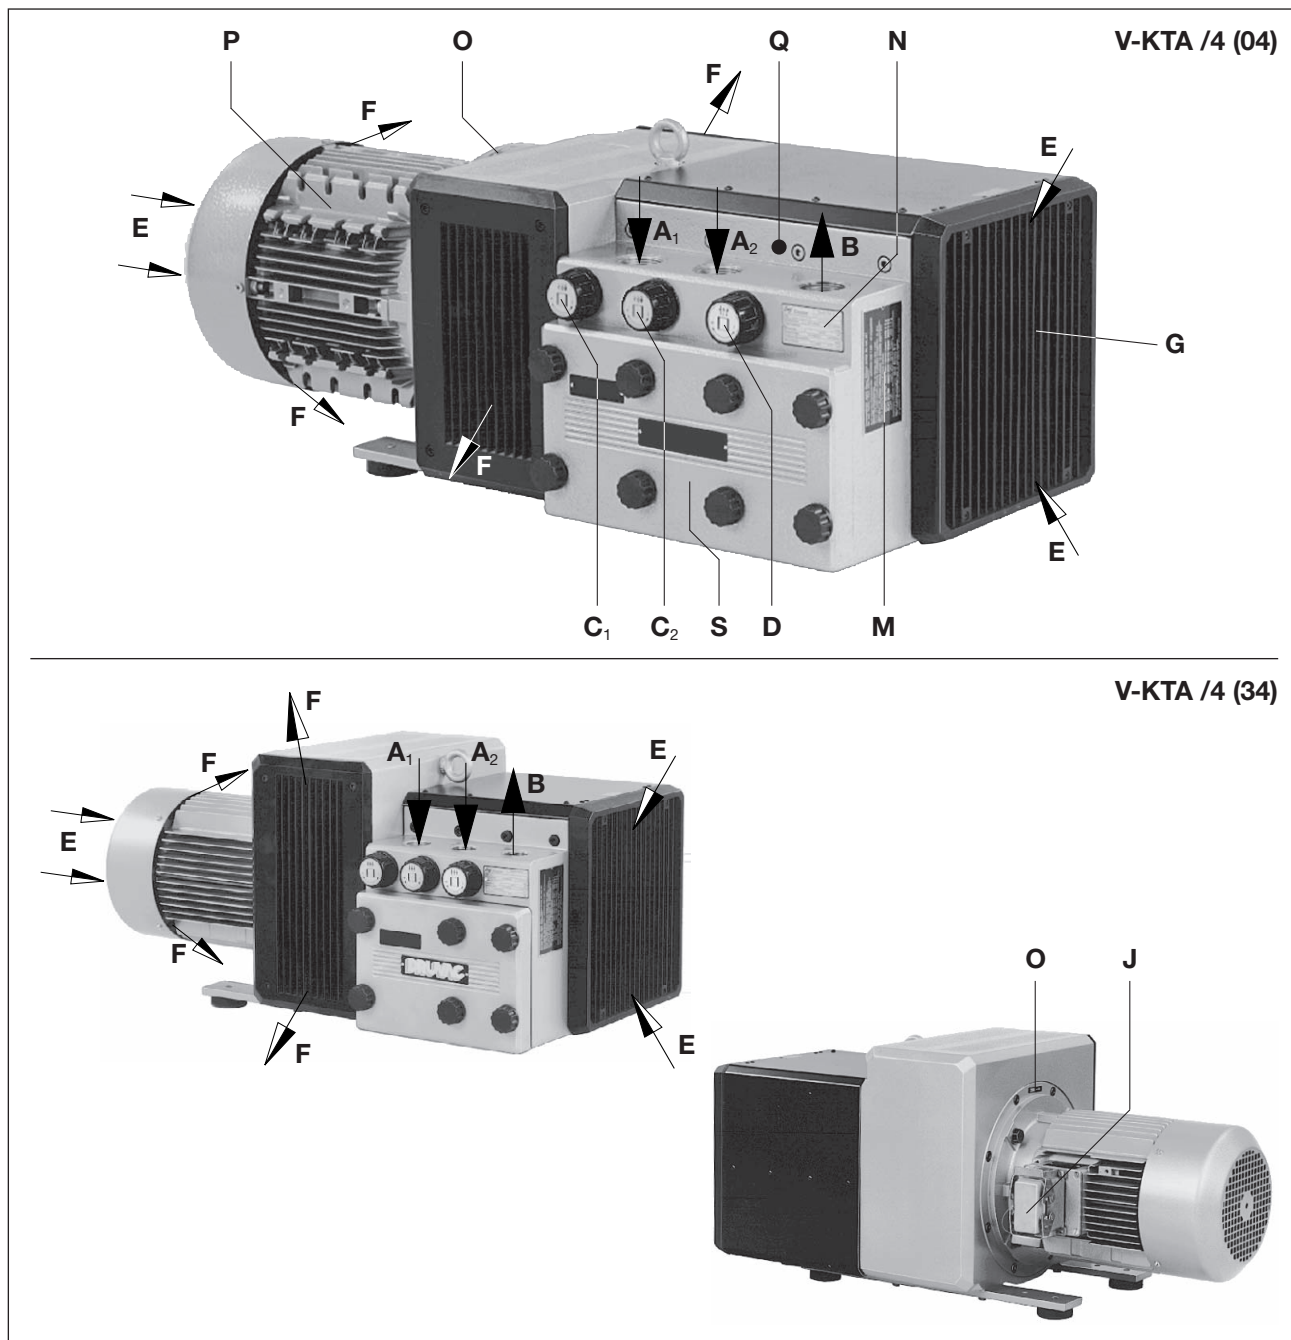

Fig. 2 Pressure vacuum pump V-KTA /4
All models have nominal capacities of 60, 80, 100 and 140 m³/hr operating at 50 cycles. The pressure and vacuum limits (bar) are indicated on the data plate (Fig. 2/N).
The filter housing (Fig. 2/S) should be easily accessible.
The cooling air inlets (Fig. 2/E) and the cooling air outlets (Fig. 2/F) must be at least 30 cm away from adjacent walls. Cooling air coming out must not be sucked in again..
or maintenance work there must be a minimum of 40 cm in front of the filter housing (Fig. 2/S) and the inlet grating (Fig. 2/G).
- a) Vacuum connections at (Fig. 2/A₁) → higher vacuum and at (Fig. 2/A₂) → lower vacuum (second vacuum) as well as pressure connection at (Fig. 2/B).
The required pressure and vacuum ranges can be set with the pressure regulating valve (Fig. 2/D) and the vacuum regulating valves (Fig. 2/C₁, 2/C₂) as shown on the symbol plate attached to the rotary knob.
- a) The motor's electrical data is given on the data plate (Fig. 2/N) or on the motor data plate. The motors comply with DIN EN 60034 and are in protection class IP 55 and insulation class F. The appropriate connection diagram is located in the motor's terminal box (not for the plug connection version). Compare the motor data with the data of the existing mains network (current type, voltage, network frequency, permitted current value).
- b) Connect the motor via plug-connector (Fig. 2/J) if fitted or via the motor protection switch (for safety reasons, a motor protection switch is required and the connecting cable must be installed via a cable fitting to provide strain relief). We recommend using motor protection switches with delayed switch off, depending on possible excess current. Temporary excess current can occur when the machine is started cold.
When the machine is at operating temperature the surface temperatures on the components (Fig. 2/ Q) may go above 70°C. You must avoid touching the hot surfaces (marked with warning plates).
The desiccant bags in the filter housing (Fig. 2/S) must be removed before initial start-up.
- ▷ The drive shaft direction of rotation is shown by the rotation direction arrow (Fig. 2/O) on the motor flange.